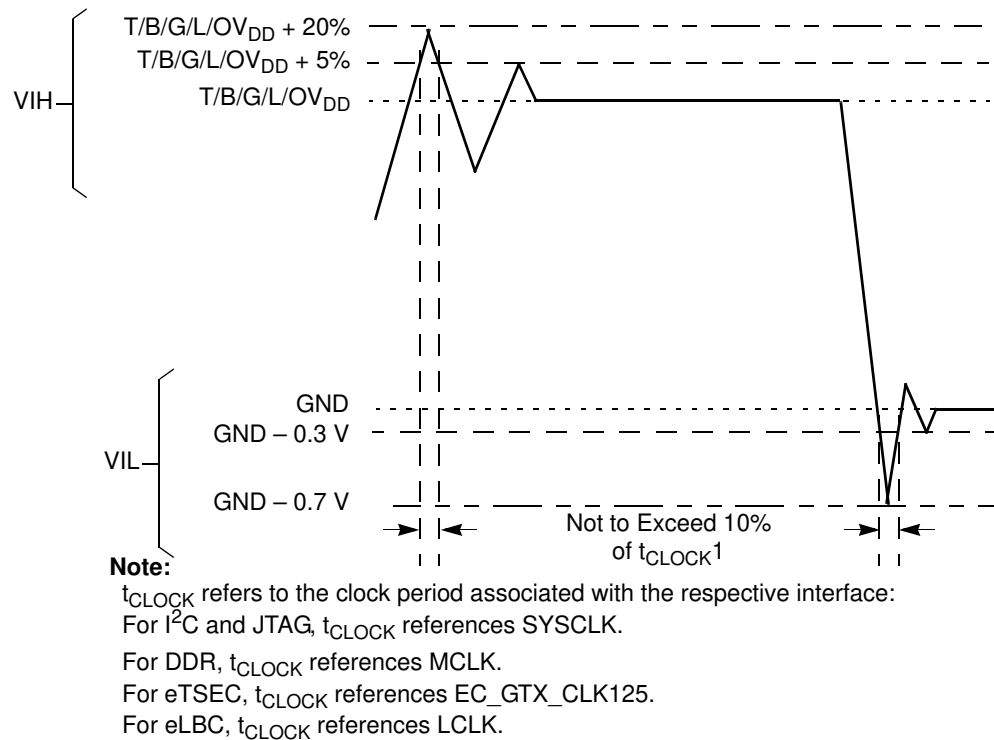

Figure 2. Overshoot/Undershoot Voltage for $T_{V_{DD}}/B_{V_{DD}}/G_{V_{DD}}/L_{V_{DD}}/O_{V_{DD}}$
- (M,L,O) V_{IN} may overshoot/undershoot to a voltage and for a maximum duration as shown in Figure 2.
Figure 2 shows the overshoot and undershoot voltages at the interfaces of the MPC8572E.